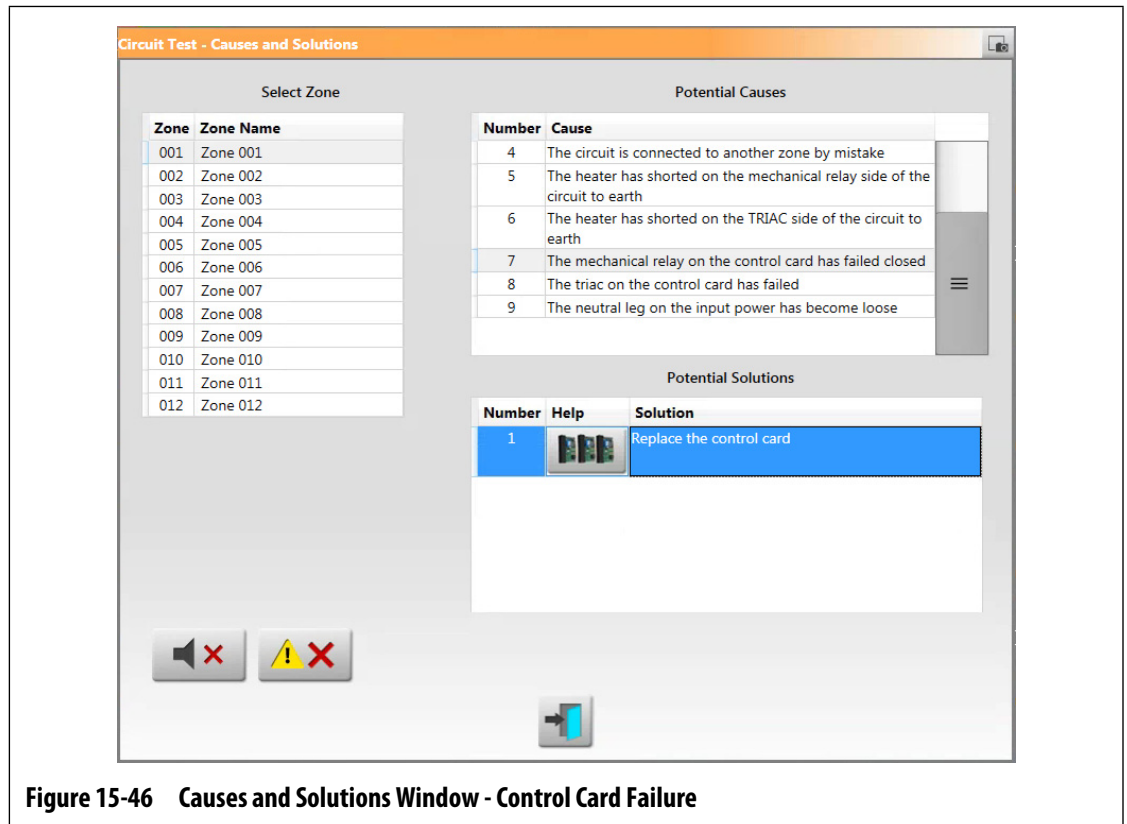

Figure 15-46 Causes and Solutions Window - Control Card Failure
- Go To Card Layout - Touch this button to see the Card Layout screen. The backplane and control card associated with the problem zone will be highlighted in red, similar to when you use the Event History screen to view errors. The Go To Card Layout button is shown in Figure 15-46. Refer to Section 15.2 for information about the Card Layout screen.
The Intelligent Control Card (ICC) related failures will show the Go To Card Layout button under the Help column of the Potential Solutions field. Refer to Figure 15-46. Touch this button to see the Card Layout screen, which will help you find the ICC that caused the failure. Refer to Section 15.2 for information about the Card Layout screen.